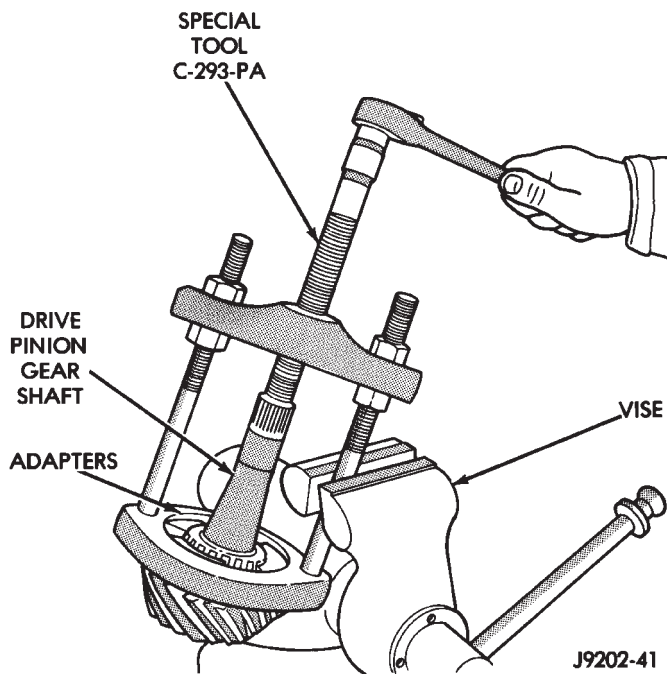

Fig. 21 Inner Bearing Removal
(8) Remove the inner bearing from the pinion with Puller C-293-PA and Adapter C-293-39 (Fig. 21).